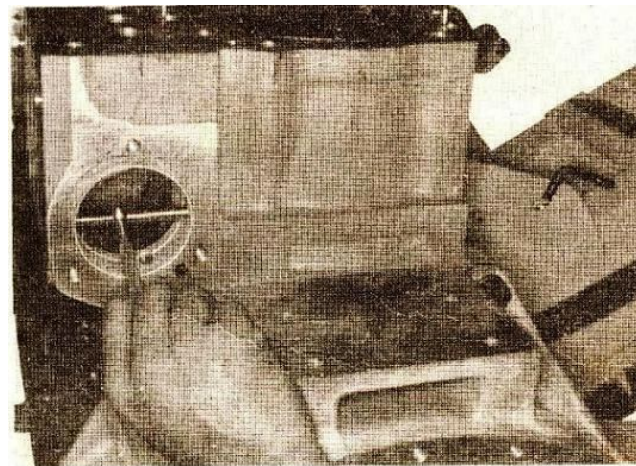

Fig. 1-1. Measure camshaft bushing
Use micrometers or dial bore gauge to measure the cam shaft bushing inside diameter. Fig. 1-1. Mark the bushings for replacement if worn larger than “Worn Limit” (Table 1-1) (1) or are chipped, or scratched. If the bushings have turned in the bore, check the bore size ; see table 1-1 (1). If bushing replacement is necessary, see parts Replacement and Repair”.